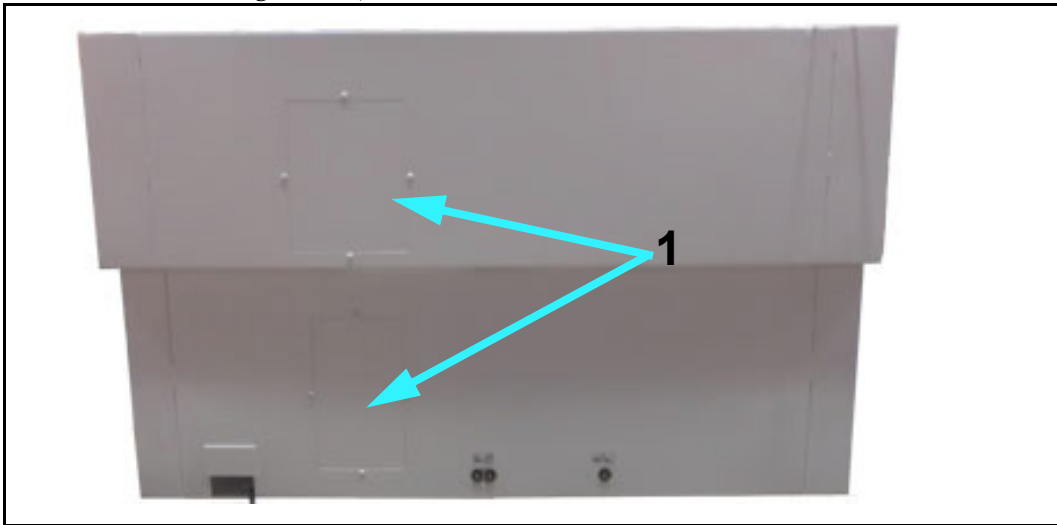

Figure 5-4. Gearbox Access Panels
- 4** At rear of the table, remove the two gearbox access panels (1 in Figure 5-4).